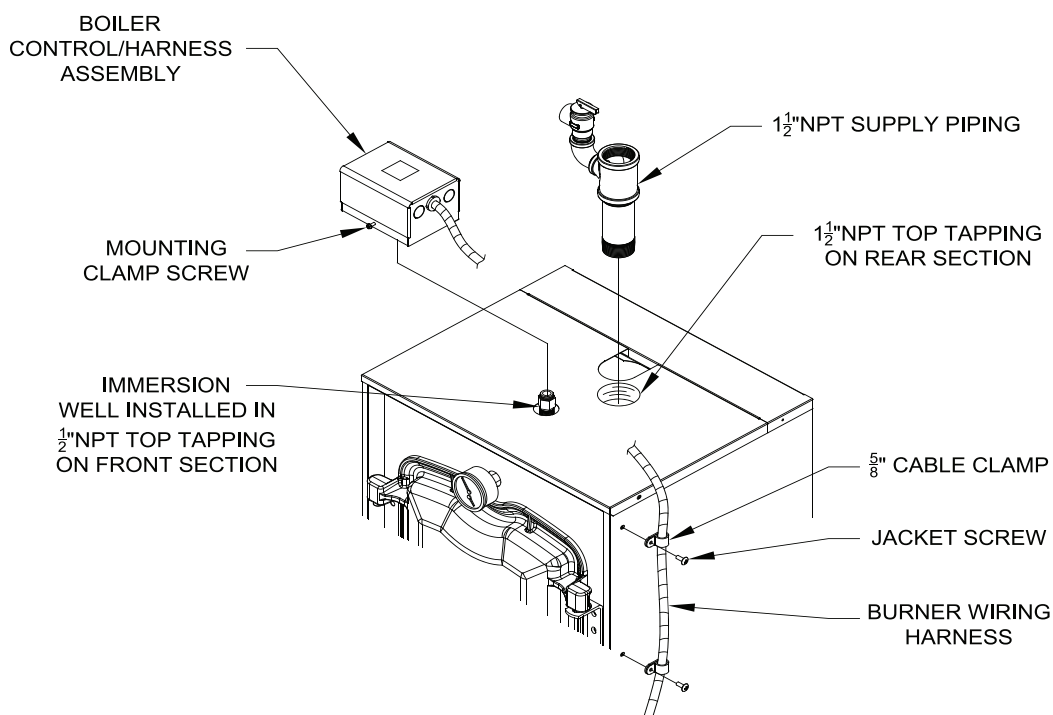

Figure 5: Supply Piping and Aquastat Control Assembly Details
Open miscellaneous parts carton and remove contents. Identify the components using the illustrations (see Figure 5) throughout the assembly sequence outlined below as it applies to your installation.
- Locate the Boiler Control/Harness Assembly in the Miscellaneous Parts Carton. Loosen mounting clamp screw on front of Control. Mount Control on factory installed immersion well located in top tapping near front of boiler with burner harness on the right hand side; see Figure 5.
- Locate (2) 5/8" cable clamps in parts carton. Secure burner wiring harness to front of jacket right side panel with cable clamps and existing jacket screws at top and mid-point as shown in Figure 5.